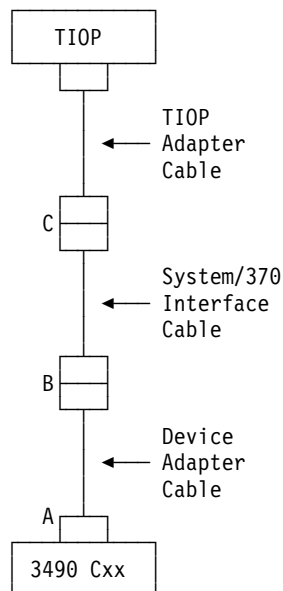

Figure 21. Tape Subsystem Cable Connections
28. The tape subsystem cables connect as shown in Figure 21.
- a. Disconnect the device adapter cable from the I/O device control unit (at **A** in Figure 21).
- b. Disconnect the System/370 interface cable from the device adapter cable (at **B** in Figure 21 on page 662).
- b. Disconnect the TIOP adapter cable from the System/370 interface cable (at **C** in Figure 21 on page 662).